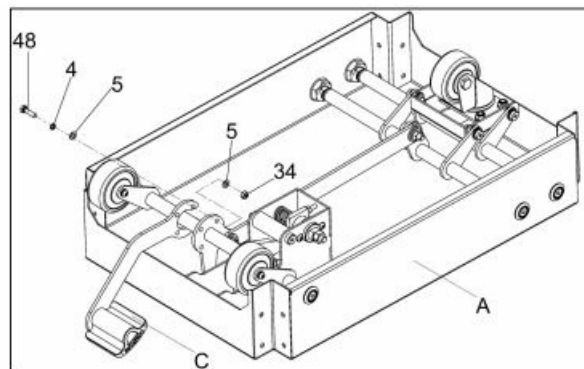

Fig.4
- **a.** Place the base platform (A) upside down on a sturdy surface. Attach the foot pedal assembly (C) to the base platform (A) as shown in Fig.4.